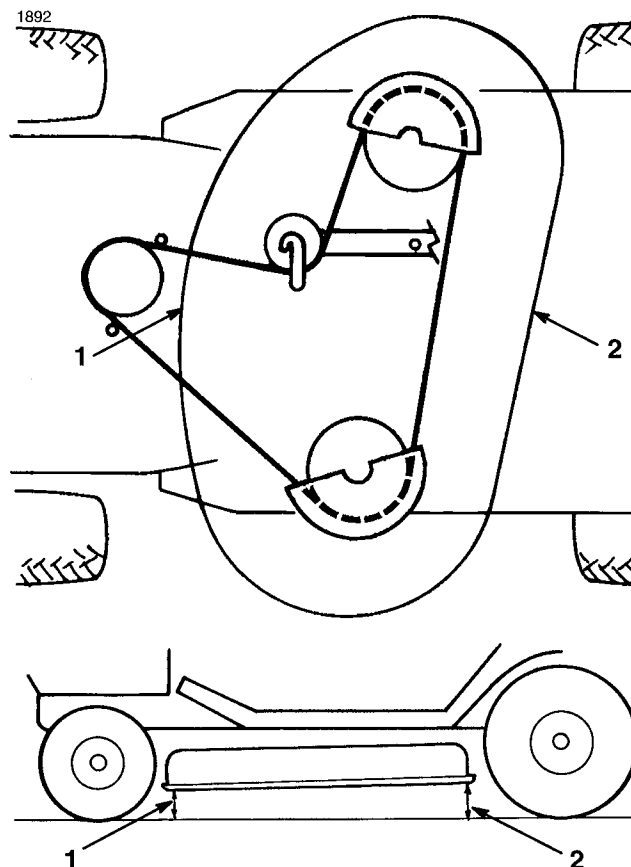

Figure 52
4. Check the front-to-rear slope by measuring between the bottom of the mower (front center and rear center) and the flat surface (Fig. 52). If the front of the mower is more than $3/16$ " (4.762mm) lower than the rear of the mower, an adjustment is required.